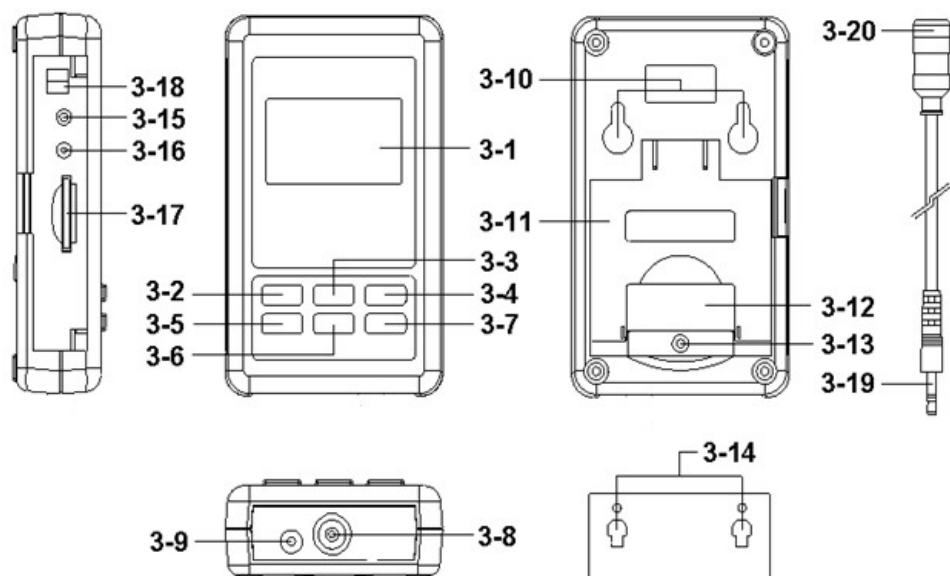

Fig. 1
- 1) Power ON the meter by pressing and holding the " Power Button " (3-2, Fig. 1)for at least 1.5 seconds, the meter's default function is " A"(frequency weighting) , " Fast"(time weighting) " Auto range ". The LCD display will show the Symbol " A, FAST , xx.x dB ".
Use the " ▲ Button " (3-3, Fig. 1) to select the Sound Measurement Range shown (AUTO , 30 - 80 , 50 - 100 , 80 - 130 ,AUTO) reading in the center of the range. If dashes appear on the display select a new range , After power on the default range is " Auto range " In the same time the LCD display will show the text of " AUTO " Under the auto range.
How to select the frequency weighting (A or C), by pressing and holding the " ▼ Button " (3-6, Fig. 1) for at least 2 seconds to select A or C Frequency weighting
According to various measuring sound source, by pressing the "▼ (Time Weighting) Button " (3-6, Fig. 1) once to select the Time Weighting (Fast or Slow or PEAK Fast) .
During the SPL measurement, pressing and holding the " HOLD Button " (3-4, Fig. 1) for at least 2 seconds will hold the measured value & the LCD will display a " HOLD " symbol. pressing and holding the " Hold Button " for at least 2 seconds again will leave the data hold function.
- 1) The data record function records the maximum and minimum readings. Press the " REC Button " (3-4, Fig.1) once to start the Data Record function and display is shown the " REC " symbol .
- a) Press the " REC Button " (3-4, Fig. 1) once, the " REC MAX " symbol along with the maximum value will appear on the display. Press the " REC Button" again the " REC MIN " symbol along with the minimum value will appear on the display. Press the " REC Button" again will show the " REC " symbol only & execute the memory function continuously.
After power ON, the " LCD Backlight " will light automatically. During the measurement, press the " POWER Button " (3-2, Fig. 1) once will turn off the " LCD Backlight ".
During the measurement, press the " Time Button " (3-5, Fig. 1) once display will show Year/Month/Date, Hour/Minute/Second and sampling time information.
Connect another mA meter into the SOUND LEVER DATA RECORDER (3-18 Fig1 4-20 mA Output Terminal) socket ,the recorder will be output 4-20 mA analog signal .
Prepare a " SD memory card " (1 GB to 16 GB, optional), insert the SD card into the " SD card socket " (3-17, Fig. 1). The front panel of the SD card should face against the left side plastic case.
Pressing and holding the " ENTER Button (3-7, Fig. 1) > 2 seconds , display is shown " LOGGER " , the " LOGGER " will flashing
During execute the Datalogger function , if press the " ENTER Button " (3-7, Fig. 1) once will pause the Datalogger function (stop to save the measuring data into the memory circuit temporality). In the same time the text of " LOGGER " will stop flashing.
If press the " ENTER Button " (3-7, Fig. 1) once again will execute the Datalogger again, the text of " LOGGER " will flashing .
Press the " ENTER Button "(3-7, Fig. 1) continuously at least two seconds, the " LOGGER " indicator will be disappeared and finish the Datalogger.
(3-5, Fig. 1) once, the LCD display will